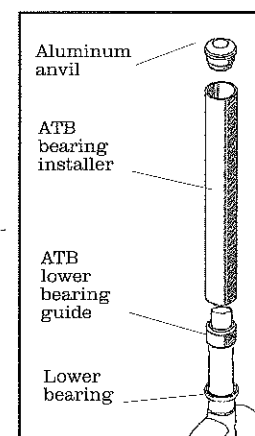

Fig. 34
21. Insert the steerer into the headtube and upper bearing (Fig. 34).